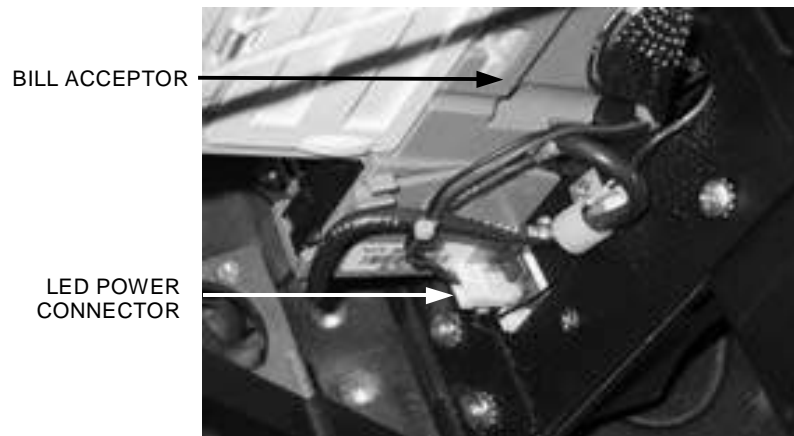

FIGURE 1 - REAR VIEW OF CPU SECTION
3. In the cash tower section disconnect the 4-pin connector from the LED board (see Figure 1) and carefully route the wires back through the access hole below the motherboard (see Figure 2). It may be easier to open the CPU section while doing this, but make sure to support the CPU section as the game will become top-heavy when both sections are open.
10. Connect the power connector to the LED board, which is located on the back of the CPU section (see Figure 1).